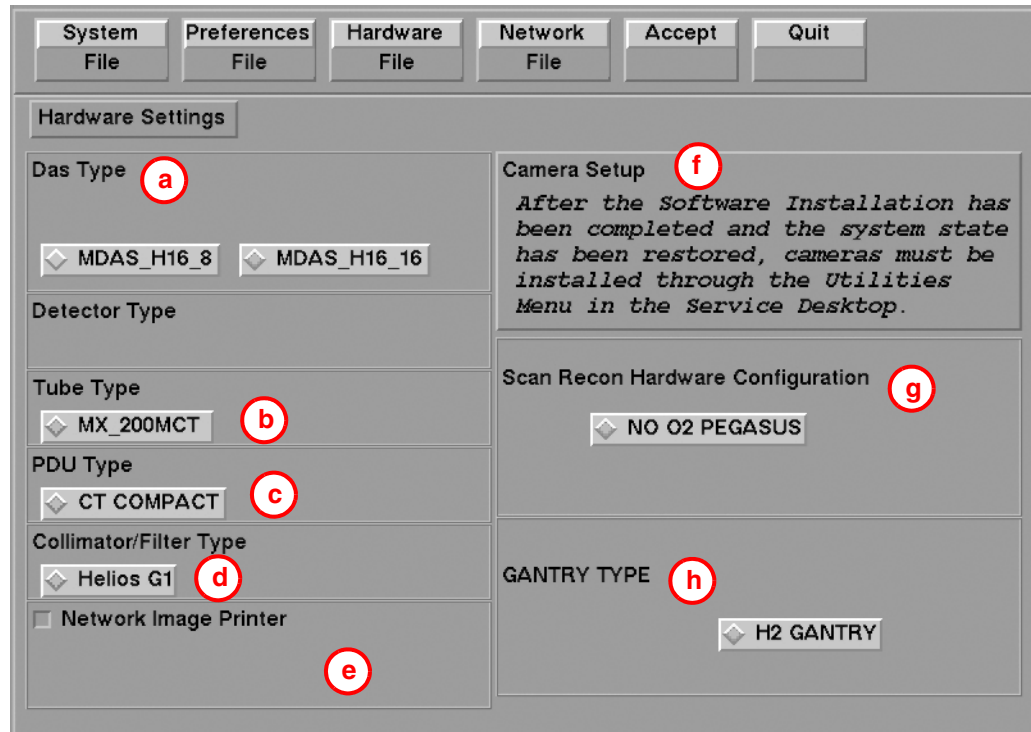

Figure 2-20 Hardware Settings Screen
- 7.) Select the HARDWARE button to display the Hardware Settings Screen (Figure 2-20).